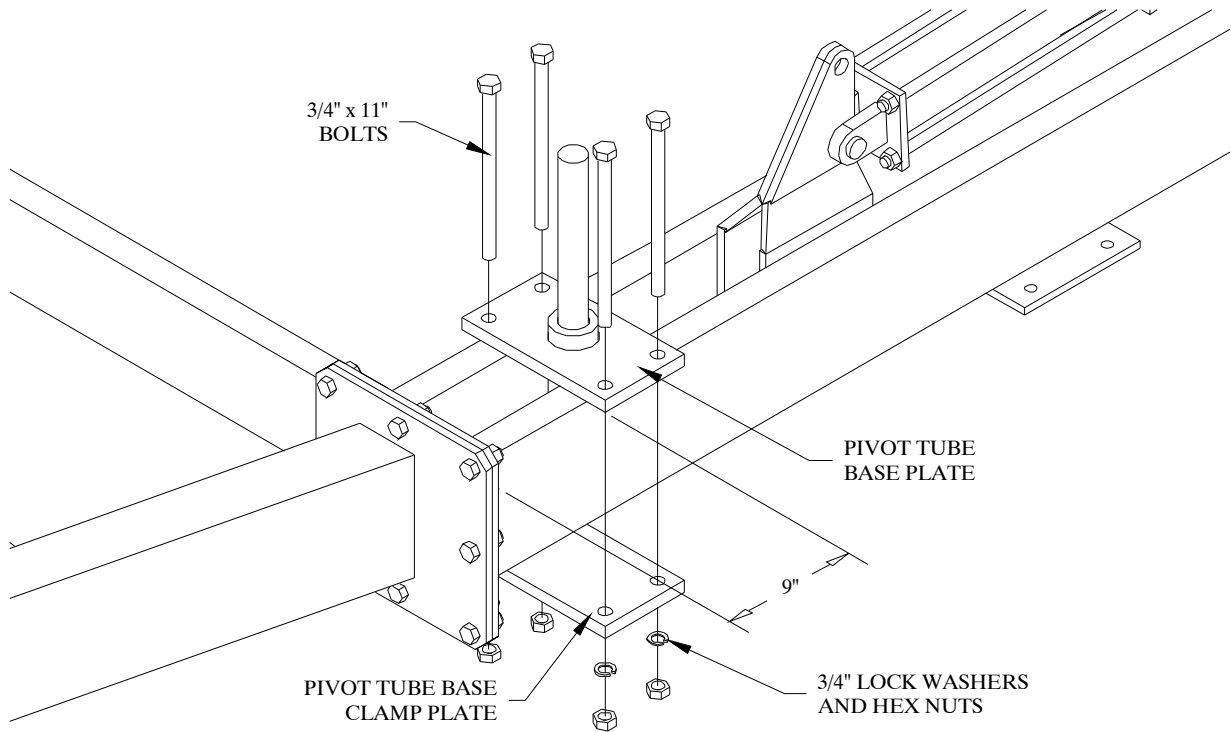

Figure 25
1. Clamp the main pivot arm base to the square frame 9" from the frame splice plate as shown in Figure 25. Use four 3/4" x 11" bolts, lock washers, and hex nuts. Do not tighten the bolts yet.